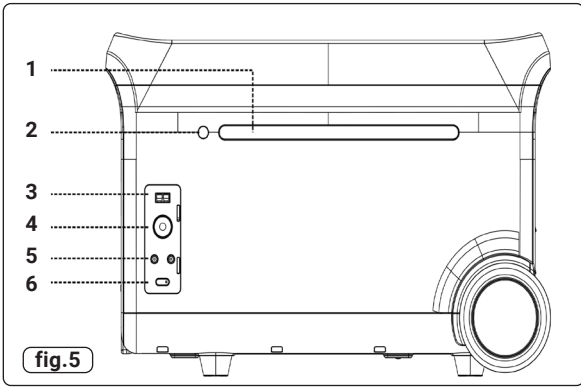

Figure 5 Key
- BATTERY CHARGING PROCESS** (fig.5)